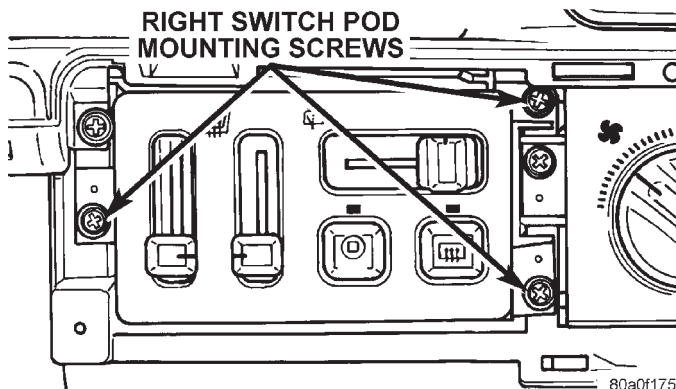

Fig. 1 Right Switch Pod Remove/Install
(1) Disconnect and isolate the battery negative cable.
(2) Using a trim stick or other suitable wide flat-bladed tool, pry gently around the edges of the right switch pod bezel and remove the bezel.
(3) Remove the three screws securing the right switch pod to the instrument panel (Fig. 1).
(4) Pull the right switch pod out from the instrument panel far enough to unplug the wiring connectors.
(5) Remove the right switch pod from the instrument panel.
(6) Reverse the removal procedures to install.